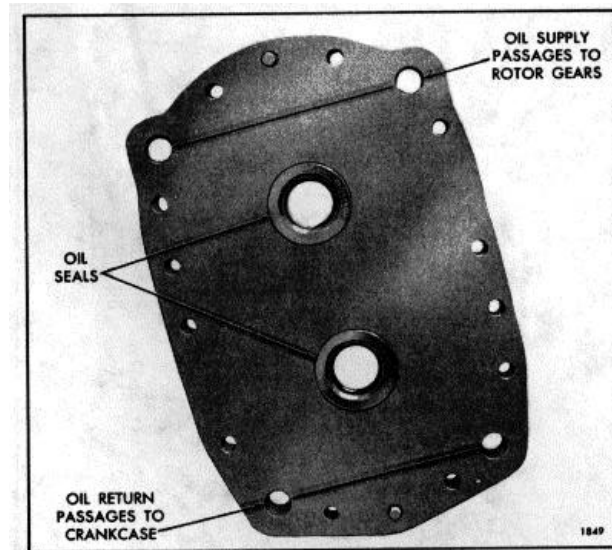

Fig. 9 - Blower End Plate and Lip Type Oil Seal Location.
1. Install the lip type oil seals as follows (Fig. 9).